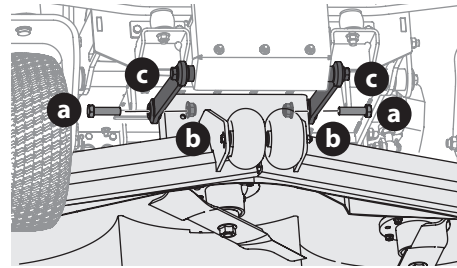

Fig. 59
- Remove the hex screws (a) and flange lock nuts (b) securing the front deck control rods (c) to the deck (Fig. 59).